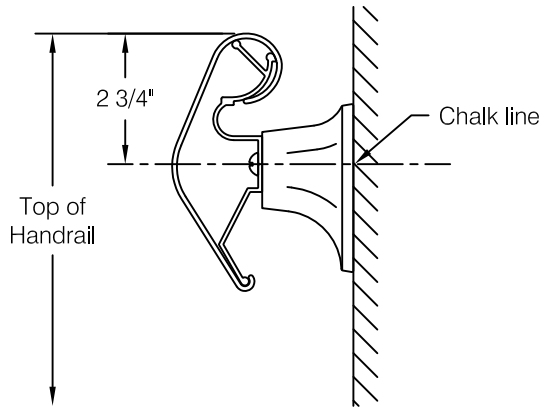

fig 1
Step 1: Determine top of handrail height and snap a chalk line 2 ¾" below for centerline of mounting hardware, see **fig 1**.